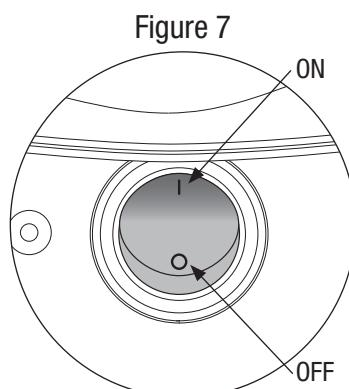

Figure 7
6. Push the power button to (ON) position (Figure 7).